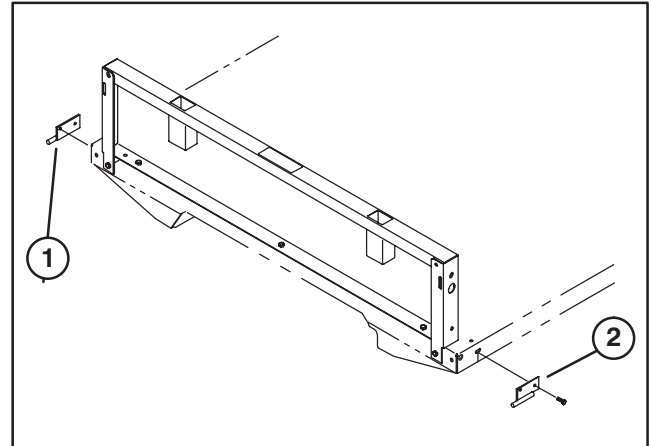

Figure 3
3. Mount a front pivot bracket to each side of bed with (2) 5/16-18 x 7/8" lg. capscrews. Position brackets as shown in figure 3.